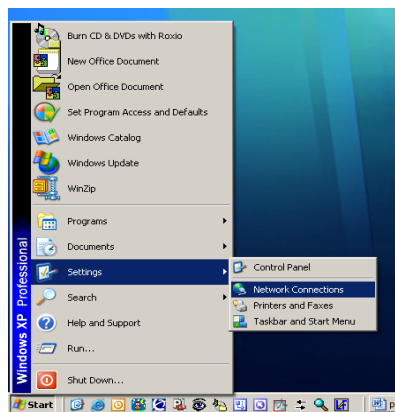
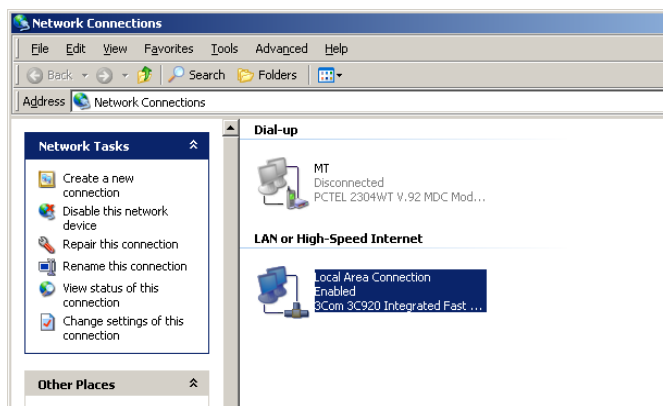
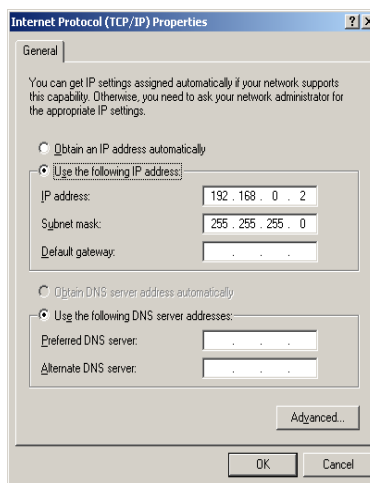

Figure D-4: Accessing the Network Connections Screen
Figure D-5: Network Connections Screen
Figure D-7: Internet Protocol (TCP/IP) Properties Screen
The PC IP address and subnet mask may be configured by accessing the screens shown in Figure D-4 through Figure D-7 on the PC as follows:
4. Click on **Start > Settings > Network Connections** (Figure D-4). A window like the one shown in Figure D-5 will open.
8. Click on the Properties button. The Internet Protocol (TCP/IP) Properties Screen displays (Figure D-7).